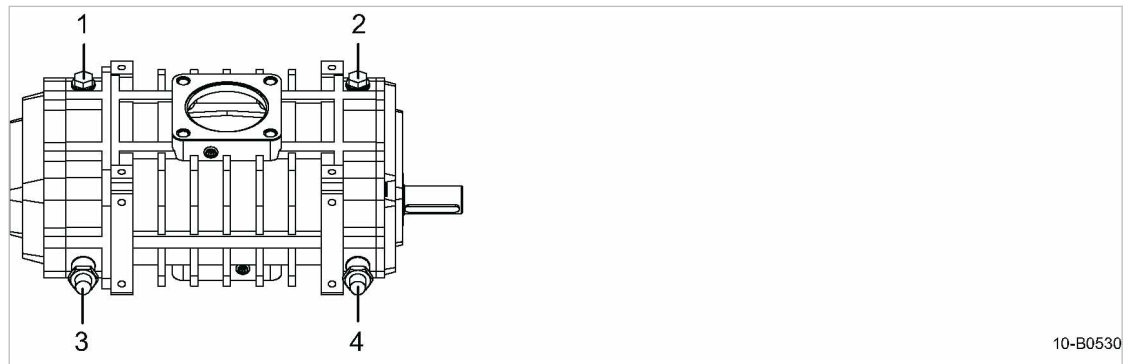

Fig. 31 Replenishing lubricating oil
2. Open the filler plugs at the oil inlet of the blower block **1** and **2** (Fig. 31).
4. Check the oil level in both sight glasses (Fig. 31) and top off as necessary.